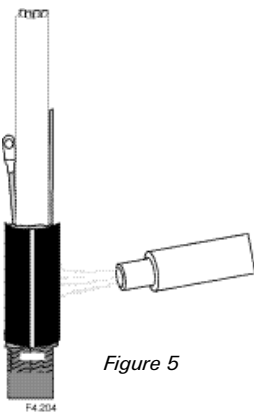

Figure 5
13. With the CV1981 hot air gun on setting 6, start shrinking the bottom of the tube, directing the air flow upward. Continue heating until the entire tube has shrunk, then apply additional heat to the lump of adhesive in the middle of the tube. Be careful not to overheat the core tube at the end of the cable block sleeve. When the seal is complete, the tube should be smooth and the adhesive lump should be melted. (Figure 5)